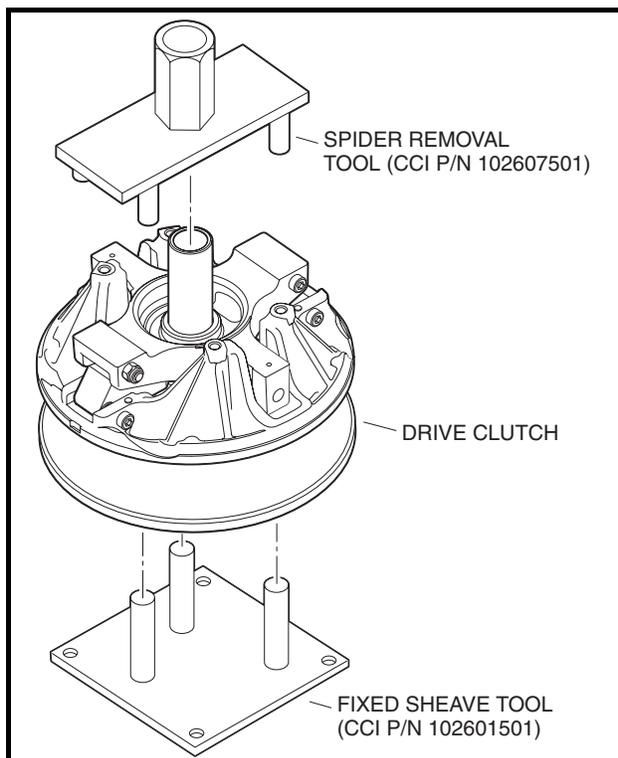

Figure 13a-33 Drive Clutch Service Tools
- Use only a dry cloth, and lightly wipe the shaft of the fixed face assembly (15) (Figure 13a-34, Page 13a-35). Do not use a brush or steel wool. These abrasives will damage the surface of the shaft.
1. Use a 7/16-inch socket to remove the four bolts (1) and washers (2) that secure the plate (3) to the clutch cover (4) (**Figure 13a-34, Page 13a-35**).
2. Remove the cover (4) and spring (5) from the clutch spider (6).
3. Inspect the torque rollers (7), weights (11) and rollers (10). Replace if necessary.